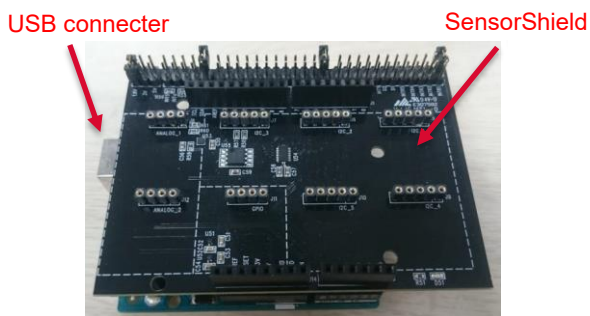

Figure 1. Connection between Arduino and SensorShield
1. Connect Arduino and SensorShield (Figure 1)